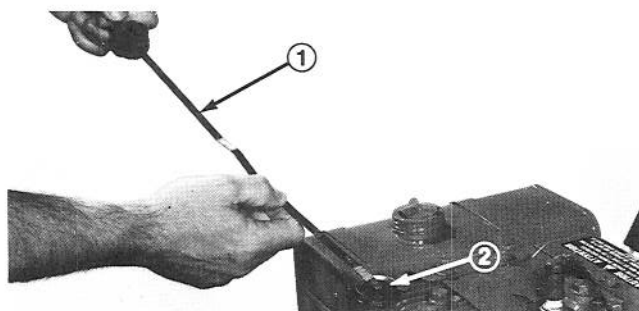

Figure 22
3. Remove dipstick from crankcase (Fig. 22).
4. Using a clean funnel, slowly pour approximately 48 ounces (1.42 l) of oil into the crankcase filler hole (Fig. 22). The Briggs & Stratton engine uses any high quality detergent oil having the American Petroleum Institute — API — “service classification” MS, SC, SD or SE. Oil viscosity — weight — must be selected according to anticipated ambient temperature. The recommended oils are SAE 5W30 or 5W20, and an acceptable substitute is SAE 10.